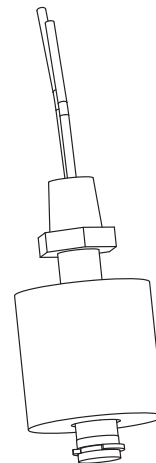

Fig. 51: Condensate Float Switch
1. Check manifold gas pressure at the gas valve outlet pressure tap (connection “D” in Fig. 51). This pressure should read per the values in Table X for natural and propane gas.